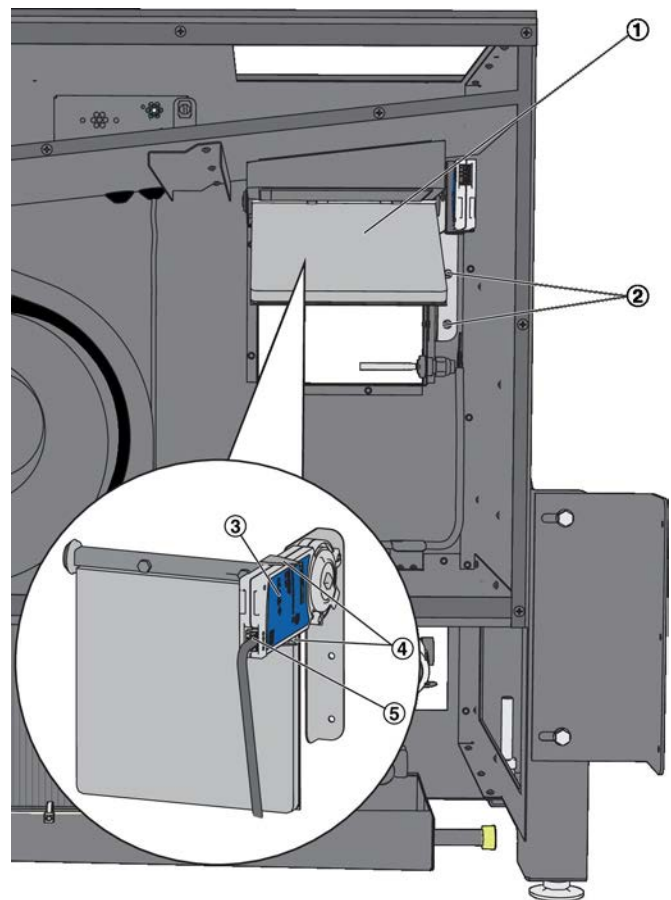

Fig. 29: Replacing an actuator
4. ▶ Loosen the two Phillips screws (Fig. 29/2).
5. ▶ Remove the entire outdoor air damper assembly (Fig. 29/1).
6. ▶ Remove the plug of the connecting cable (Fig. 29/5) from the actuator (Fig. 29/3).
7. ▶ Release the actuator from the retaining bracket (Fig. 29/4) and fit a new actuator.